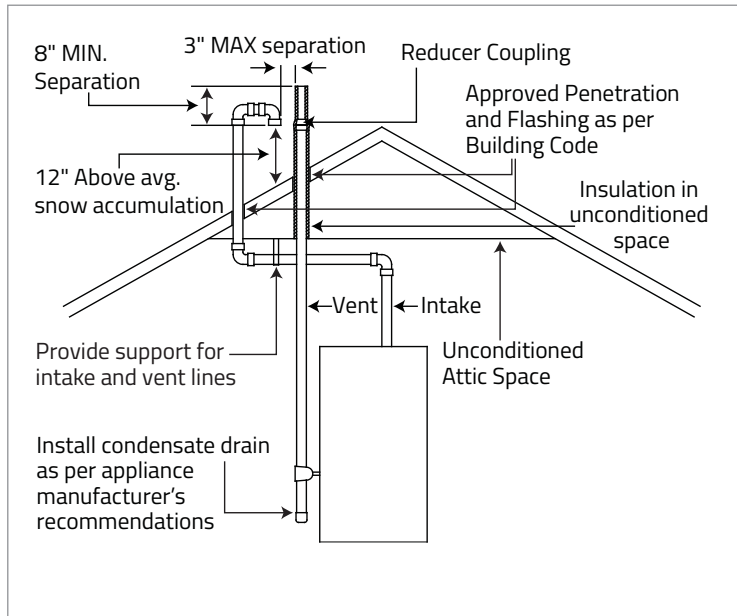

Figure 9:
- (a) In accordance with the requirements of the 2018 edition of the NFPA 54/ANSI Z223.1 National Fuel Gas Code, gas vents that are 12 inches or less in size and located not less than 8 ft from a vertical wall or similar obstruction shall terminate above the roof in accordance with Figure 9 and Table 1.